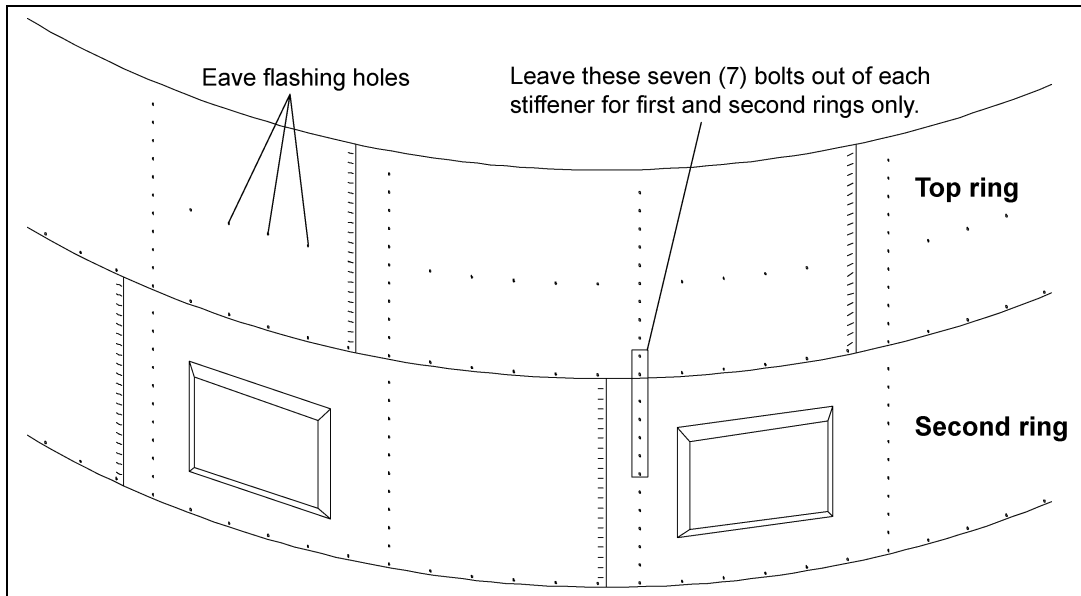

Figure 5B Top 2 Rings
NOTE: The fan entrance sheet and access door are located in the second ring. Attach the top stiffeners, leaving out the seven (7) bolts indicated in Figure 5B at each stiffener location. Install the flashing bolts from the outside and tighten first nut on the inside of the bin.